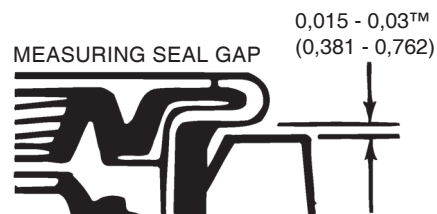

Figure 5.101
- If the gap varies more than 0.010-inch (0.254 mm) between the highest and lowest measurement, remove and reseal the seal. Figure 5.101.